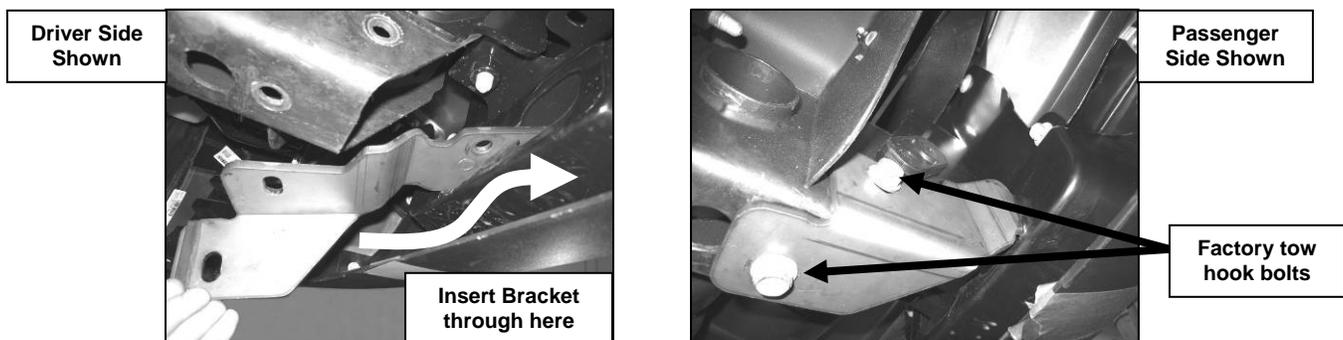

Figure 2
- Insert factory tow hook back into frame. Secure Passenger Mounting Bracket to frame using the same bolts to install the tow hook (Fig 2). Do not tighten at this time.